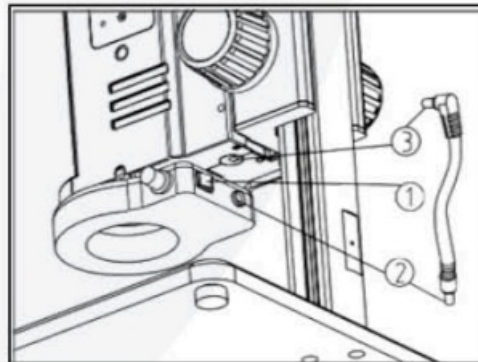

Fig.6
- Insert the power cord plug of body group into the ring light interface (1), then turn on the switch (3) to start the light source. (See Fig.6)